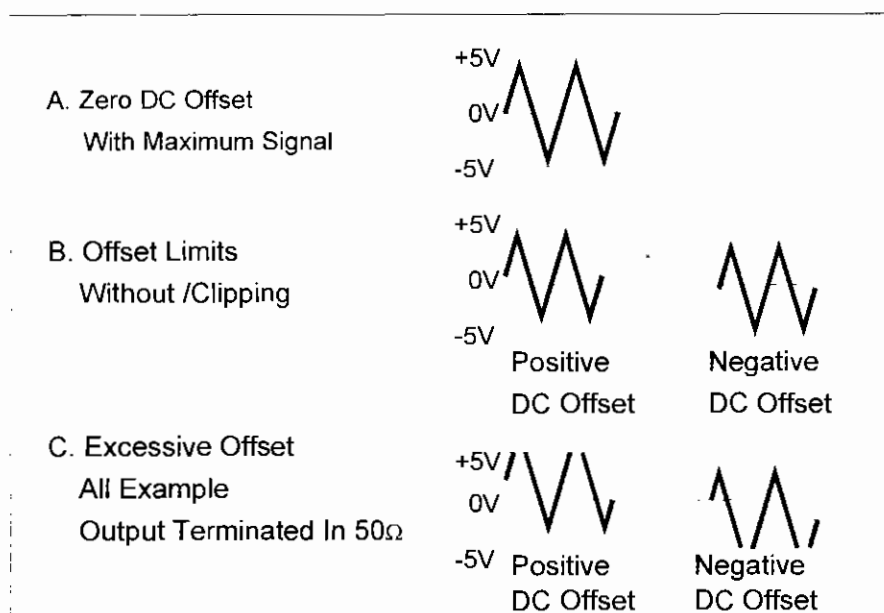

FIG 4. USE OF DC OFFSET CONTROL
A. The DC offset control can provide over ± 10 volts open-circuited, or ± 5 volts into 50Ω load. Remember that the combined signal swing plus DC offset is also limited to ± 10 V open-circuited, or ± 5 V into 50Ω . Clipping occurs slightly next page these levels. FIG 4. illustrates the various operating conditions encountered when using DC offset. If the desired output signal is large or if a large DC offset is used, an oscilloscope should be used to make sure that the desired combination is obtained without clipping. The probability of clipping is reduced by keeping the Amplitude control in the lower half of its adjustment range.